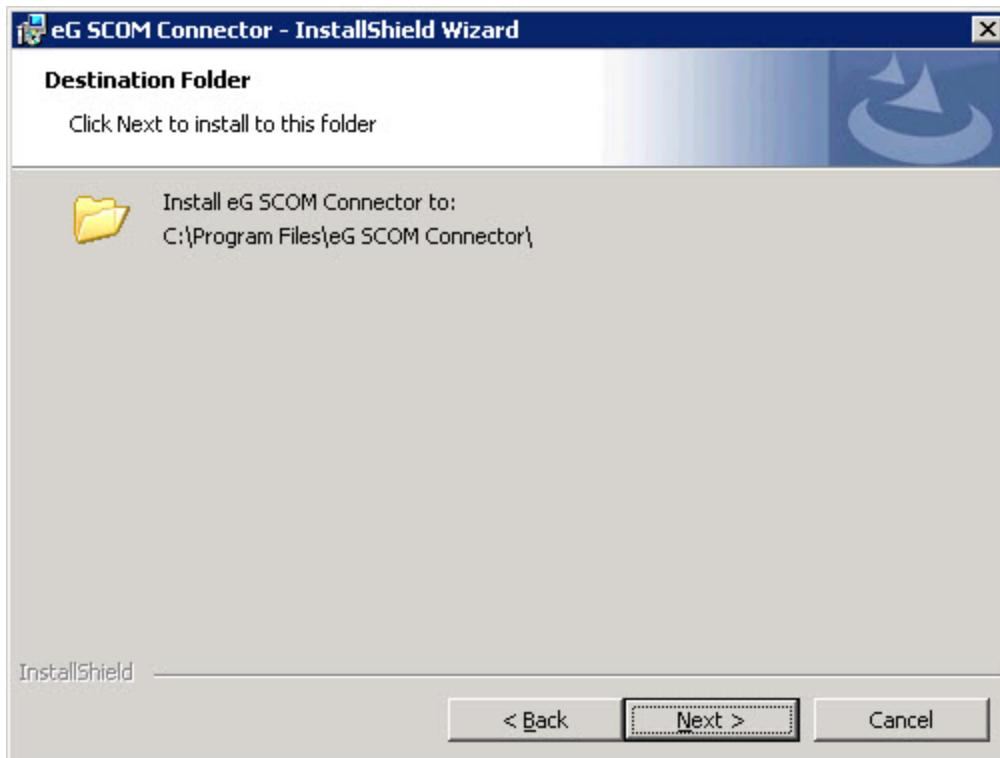

Figure 3.4: Specifying the install directory of the connector
7. When Figure 3.4 appears, the directory in which the eG SCOM Connector will be installed by default, will be displayed. **This default directory cannot be changed.** Click the **Next** button to